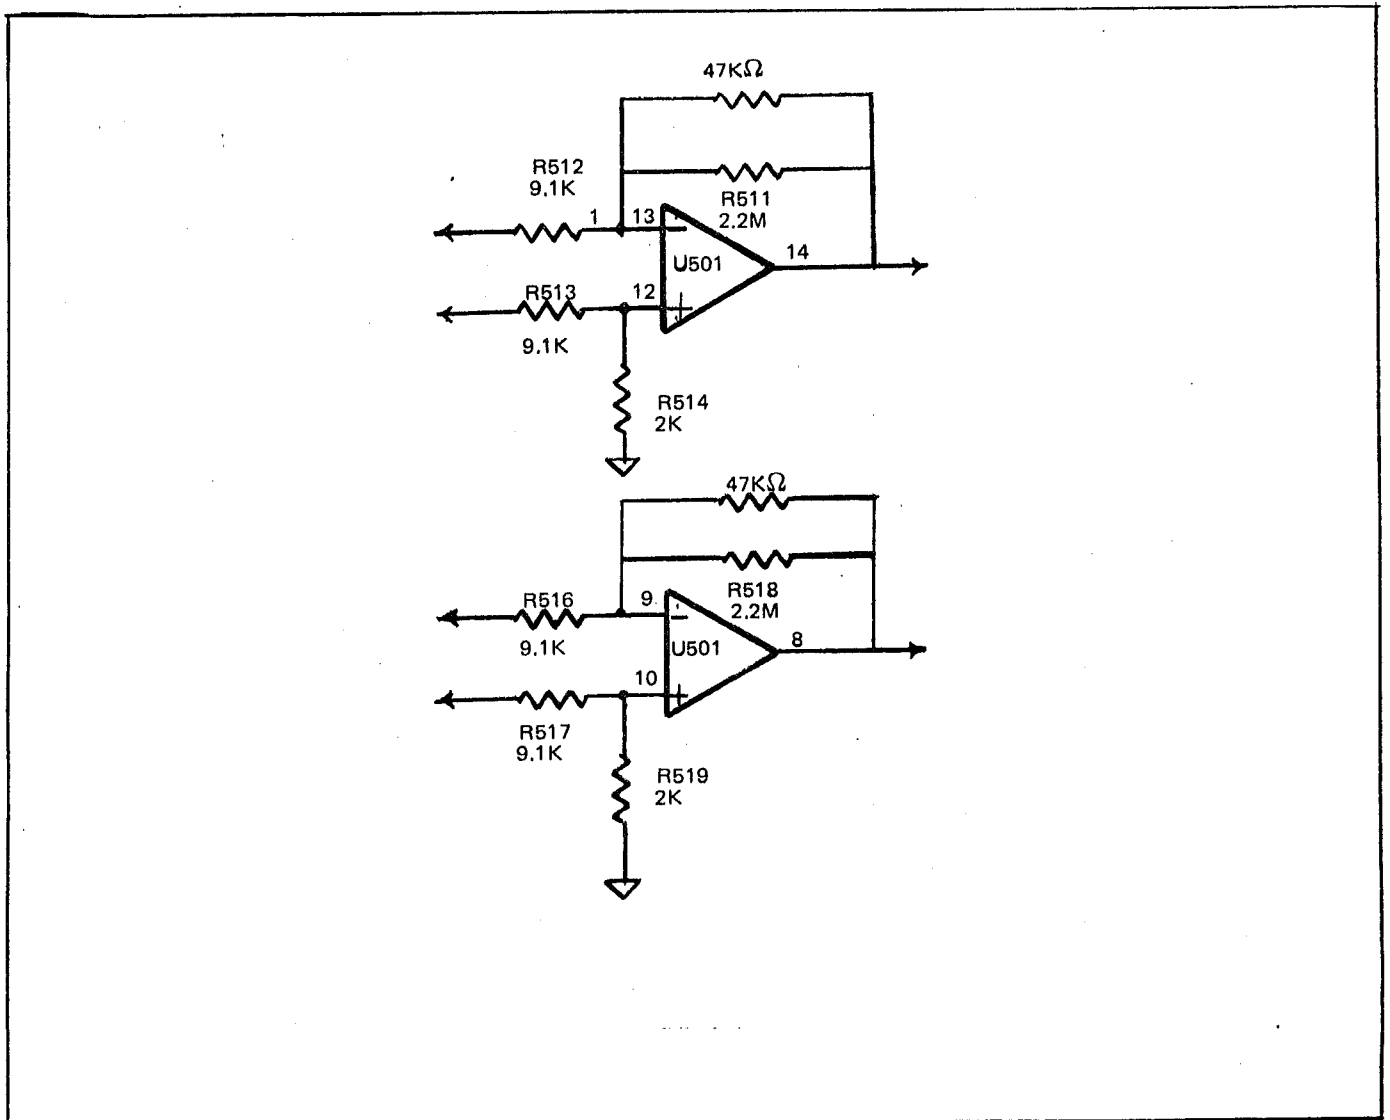

FIGURE 5-20 ERROR AMPLIFIER U501
2. Connect two 47K ohm $\frac{1}{4}$ watt resistors in parallel with the 2.2 mega ohm feedback resistors of the error amplifier U501. (Refer to Figure 5-20).